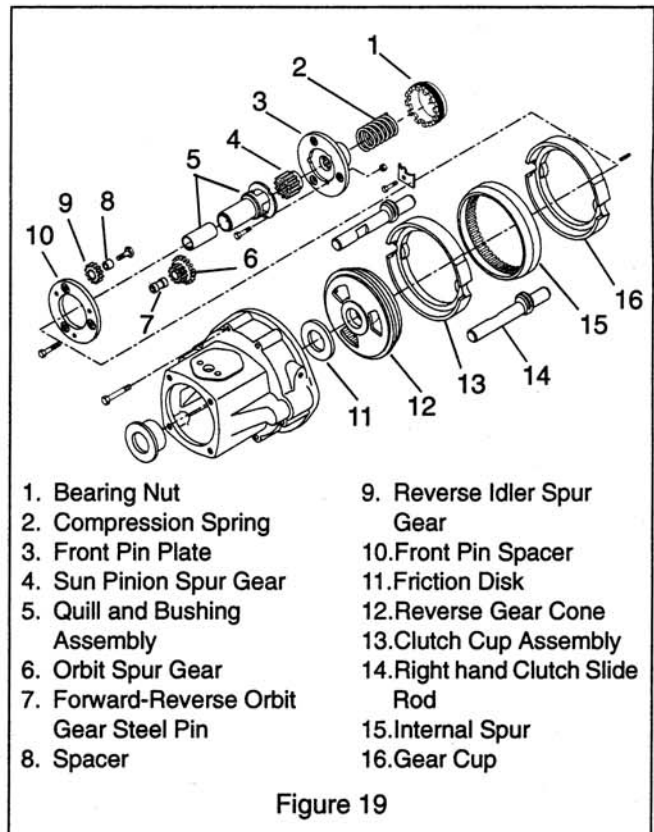

Figure 19
4. Mesh the three gears with sun pinion so that the timing marks form an equal sided triangle. Timing marks (Figure 19) are white paint marks on the opposite side of gears.
When replacing this unit in the transmission it is necessary to mesh the teeth on the actuating rod and the clutch slide rods (Figure 19) to accept the assembly.